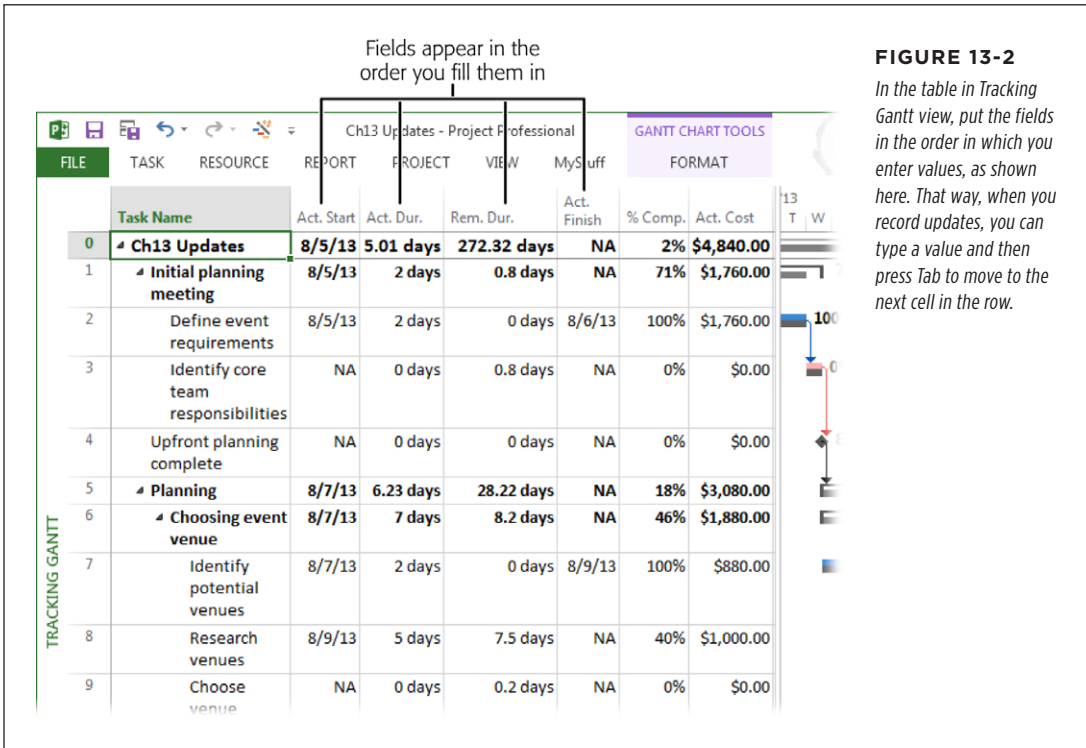

FIGURE 13-2
As its name implies, Tracking Gantt view helps you track your project's status. It's a good starting point when you're ready to update status values in Project. When you display this view (in the View tab's Task Views section, click the bottom half of the Gantt Chart button, and then choose Tracking Gantt), the timescale includes gray task bars for the project's baseline in the bottom half of each row, as shown in Figure 13-2. The top half of each row displays red and blue task bars for critical and noncritical tasks' current scheduled dates (respectively).
- **The UpdateDuration table**, shown in Figure 13-2, is ideal if you track status with actual and remaining duration. It starts with Task Name and then follows with Actual Start, Actual Duration, Remaining Duration, and Actual Finish. The next two columns are % Complete and Actual Cost, which Project calculates for you. The rest of the fields for updating are at the right side of the table in case you need them (Actual Work, Remaining Work, % Work Complete, and Physical % Complete). (Physical % Complete comes into play when you use earned value analysis to evaluate project performance, as described on page 441.)